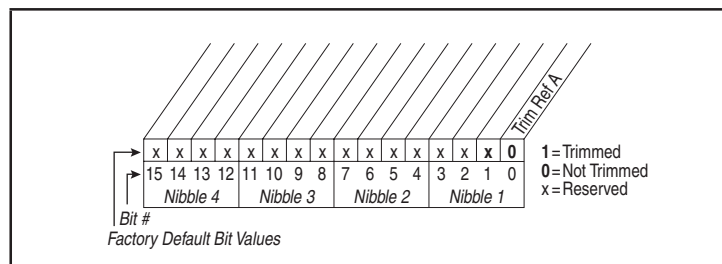

Figure 11.9 – Trim Out Select (118)
**Range:** See figure 11.9
**Default:** See figure 11.9